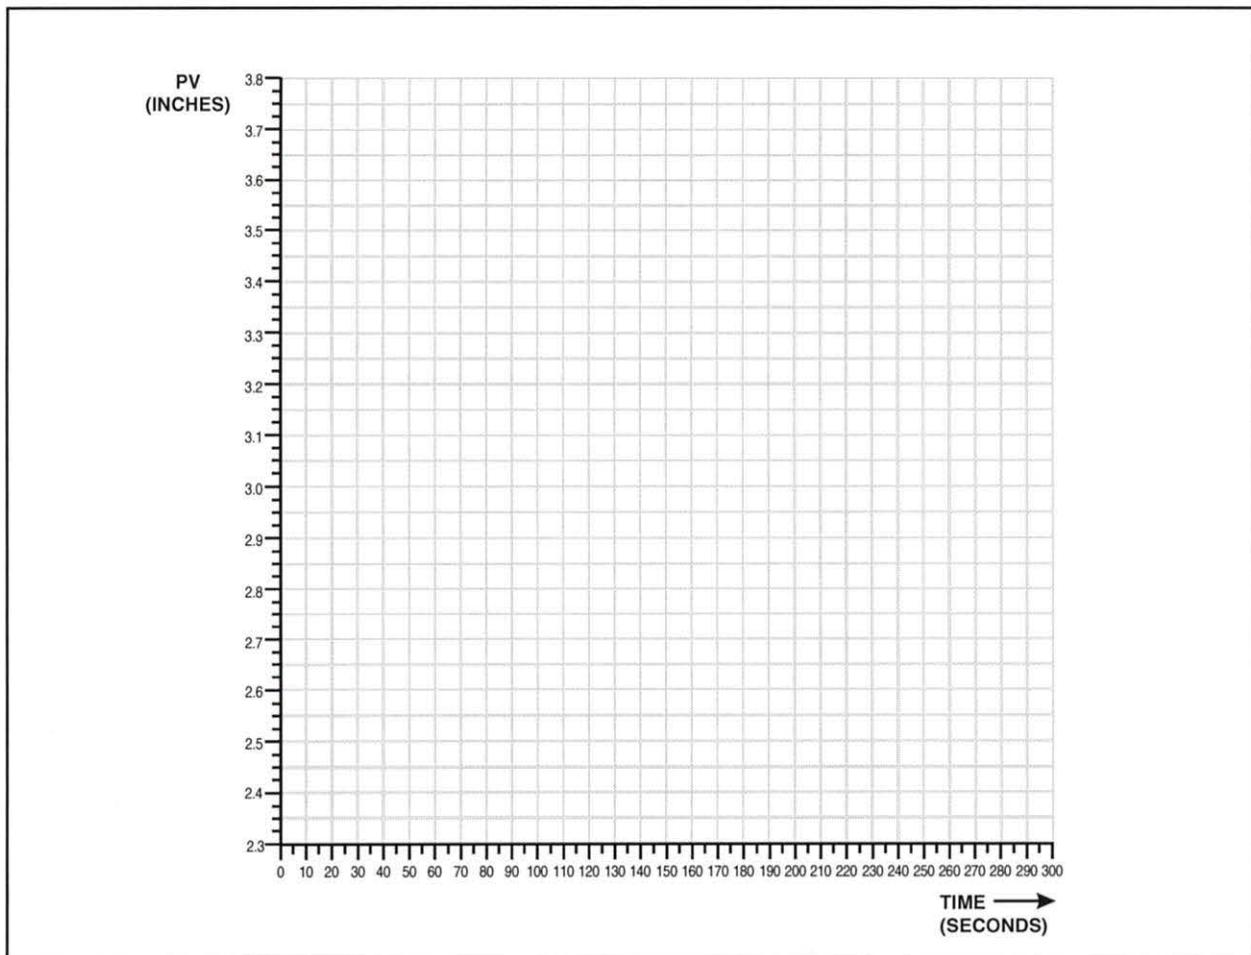

Figure 55. Graph of PV vs. Time
- B. Create a graph of PV vs. time, similar to figure 55, on a piece of graph paper.